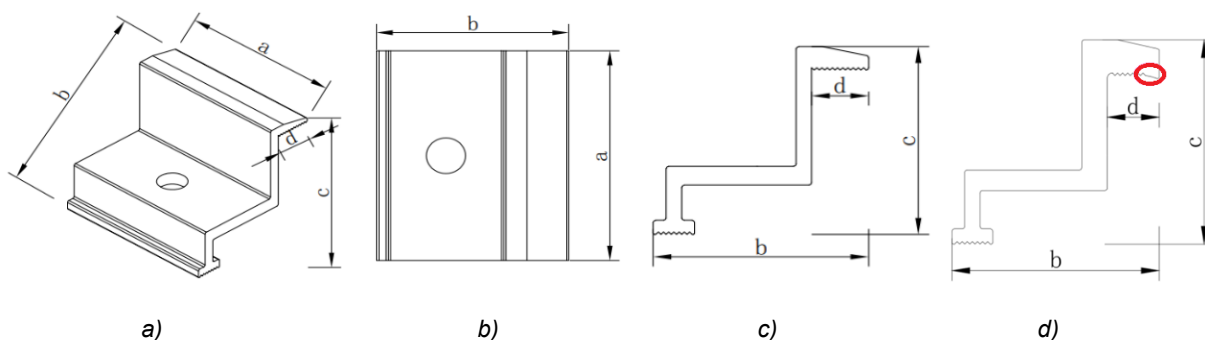

Figure 12. Recommended clamp schematic.
The clamps must not be installed in contact with the front glass of the Module and must not deform, or exercise excessive pressure on, the Module frame. Recommended clamp schematic shown as follows (see Figure 12). Ensure that the clamps do not create a shadow on the Module. Under no circumstances may the frame be altered. When choosing the mounting method for the clamps, make sure that there are at least four clamps on each Module. Different mounting positions of the clamps, as well as the way rails support the modules, determine the maximum load capacity of the Module. Table 7 to Table 9 as follows, show the different mounting methods and the positions of the clamps and rails for the different mounting methods. The distance between the installation position of the long-side clamp and the edge is represented by L in Table 7 to Table 9. The distance between the installation position of the short-side clamp and the edge is represented by S in Table 8 and Table 9. Both L and S refer to the distances from the centre of the clamp to the corresponding edges.
- c) Modules with a length greater than 2.2 m and a width greater than 1.3 m are required to be mounted with the camber clamps shown in Figure 12 - d), which enables the clamps to fit better with the frame and provide more stable performance under extreme environmental conditions.